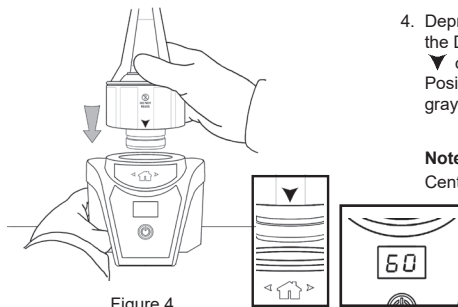

Figure 4
4. Depressing the gray button on back of Centrifuge, attach the Disposable Unit to the Centrifuge. The Position Arrow ▼ on the Disposable Unit must be aligned with the Home Position 🏠 on the Centrifuge (Figure 4), then release the gray button.